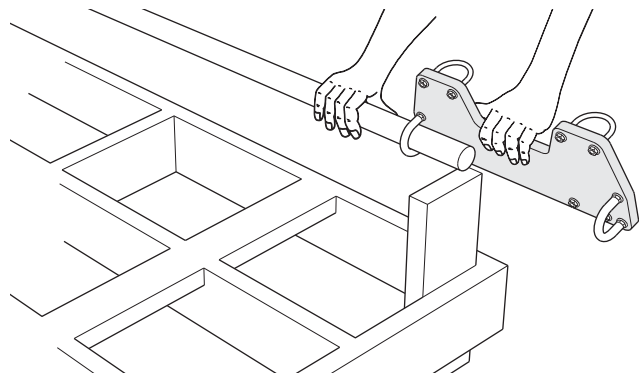

Figure 13: Installing trunnion assembly onto the rail tube.
2. Slide a trunnion assembly onto the unsecured end of the rail, as shown in Figure 13.